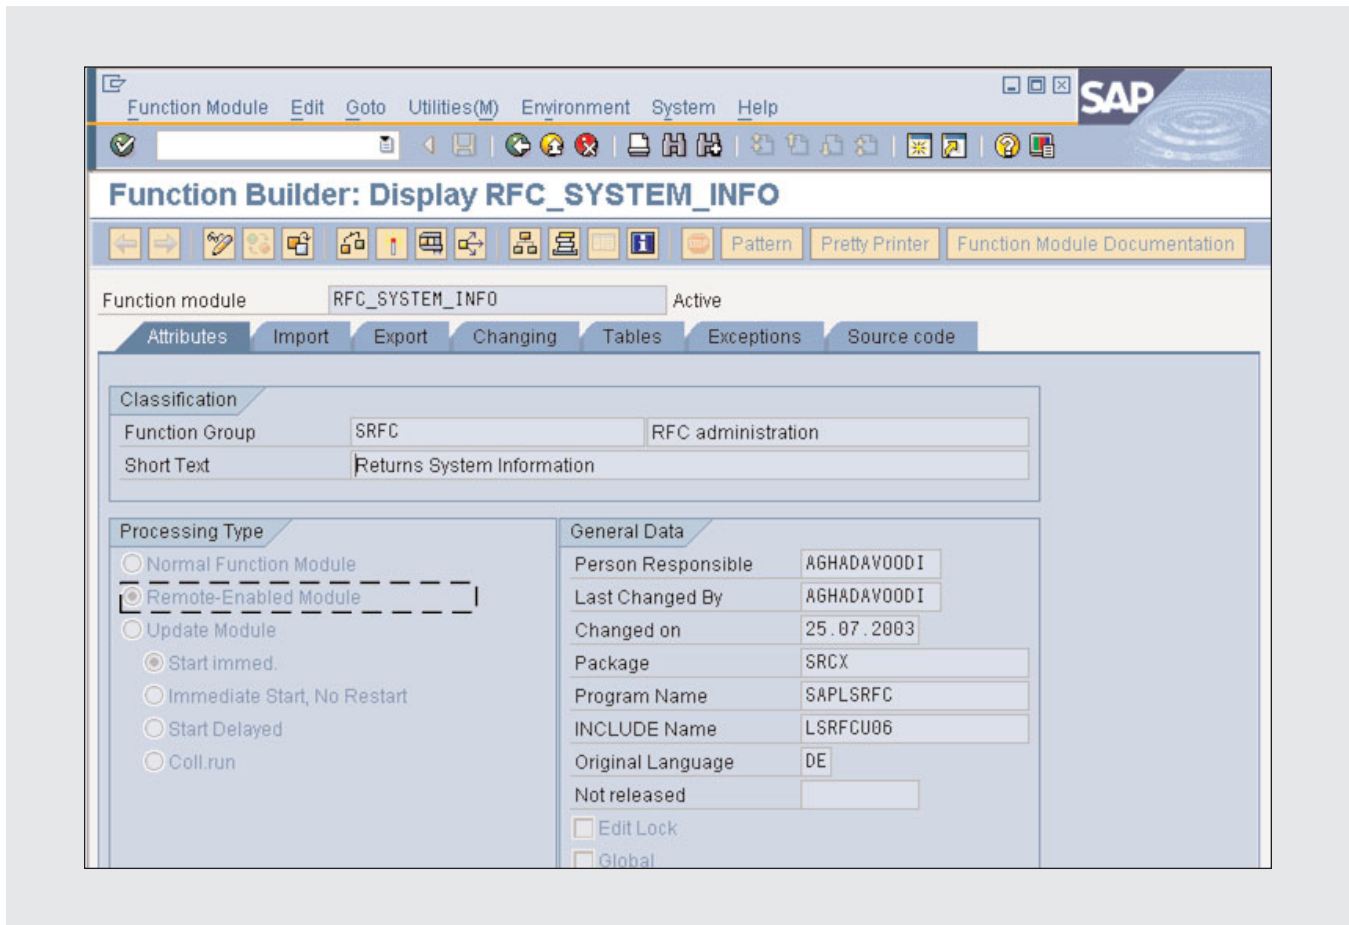

Figure 1 Enable the remote functionality for the RFC_SYSTEM_INFO function module
1. Enable the remote functionality by selecting the Remote-Enabled Module option on the Attributes tab for the function module (in this case, RFC_SYSTEM_INFO), as shown in **Figure 1**.